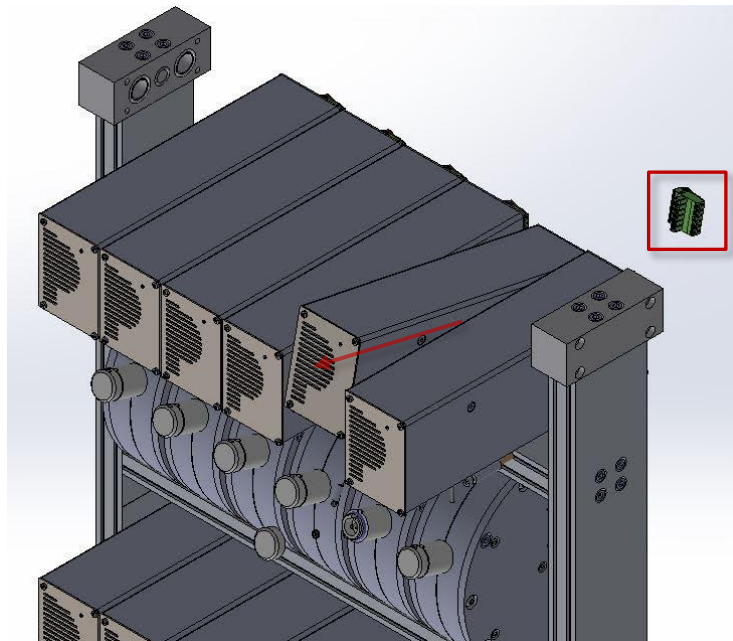

Figure 57 Move the MiniSEPT forward
5. Move the MiniSEPT forward so that it is possible to reach the signal and power connection at the back, see Figure 57.
6. Remove the signal and power connector at the back of the MiniSEPT, see red box in Figure 57.